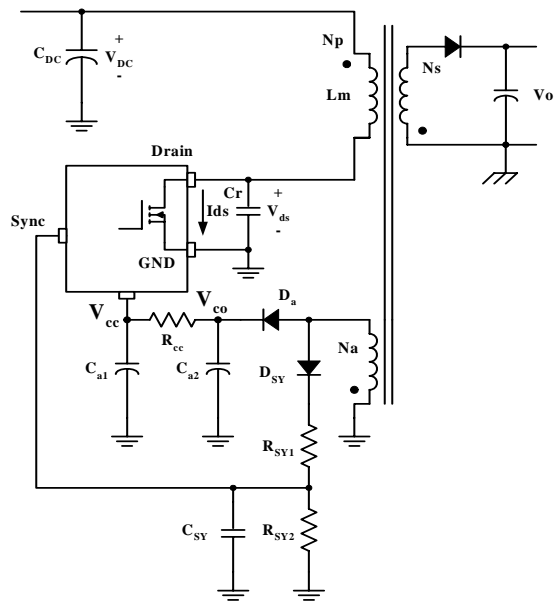
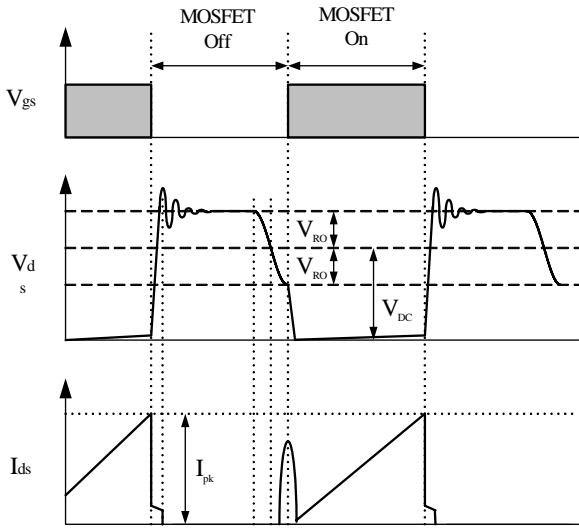
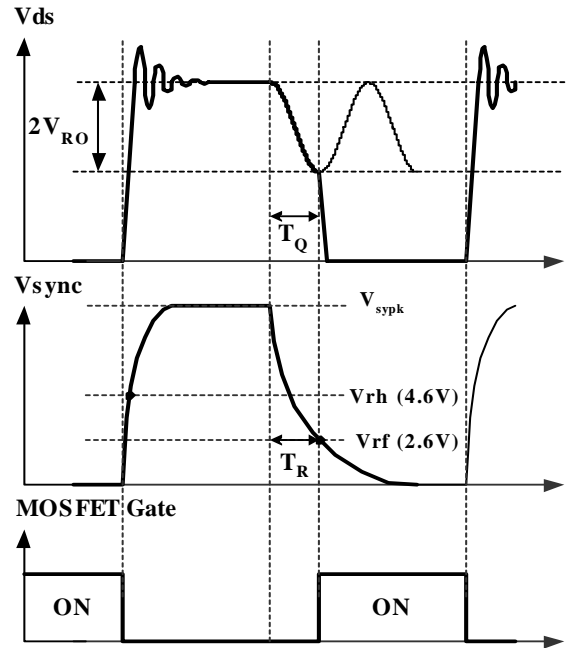

Figure 6. Synchronization Circuit
Figure 7. Quasi-resonant Operation Waveforms
Figure 8. Normal Quasi-Resonant Operation Waveforms
2. **Synchronization:** The FSCQ-Series employs a quasi-resonant switching technique to minimize the switching noise and loss. In this technique, a capacitor (Cr) is added between the MOSFET drain and the source as shown in Figure 6. The basic waveforms of the quasi-resonant converter are shown in Figure 7. The external capacitor lowers the rising slope of the drain voltage to reduce the EMI caused when the MOSFET turns off. To minimize the MOSFET's switching loss, the MOSFET should be turned on when the drain voltage reaches its minimum value as shown in Figure 7.
The minimum drain voltage is indirectly detected by monitoring the Vcc winding voltage as shown in Figure 6 and 8. Choose voltage dividers, R_{SY1} and R_{SY2}, so that the peak voltage of the sync signal (V_{syk}) is lower than the OVP voltage (12V) to avoid triggering OVP in normal operation. It is typical to set V_{syk} to be lower than OVP voltage by 3-4 V. To detect the optimum time to turn on MOSFET, the sync capacitor (C_{SY}) should be determined so that T_R is the same with T_Q as shown in Figure 8. The T_R and T_Q are given as, respectively